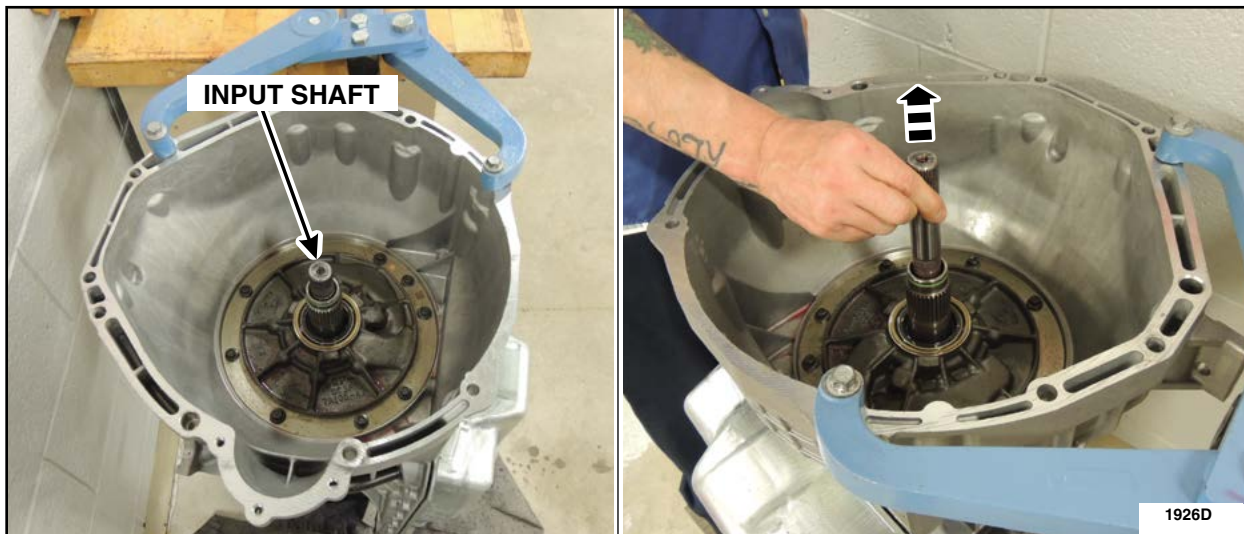

FIGURE 4
5. Remove the input shaft by lifting the input shaft up and out of the transmission. See Figure 4.